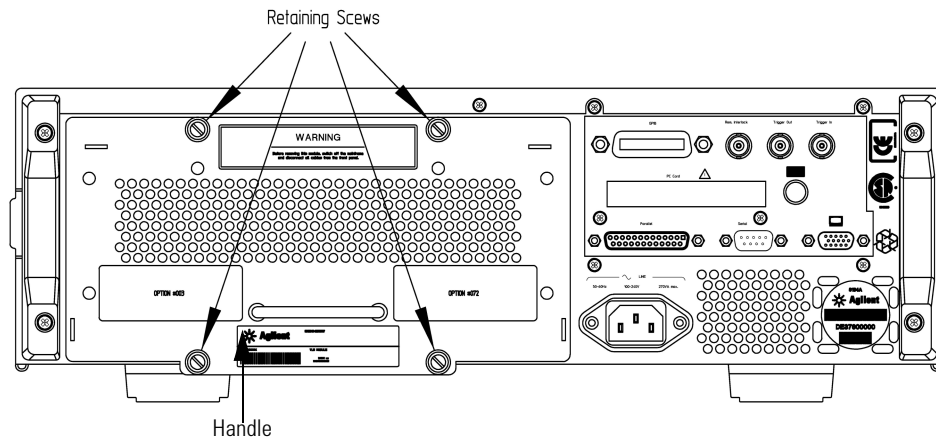

Figure 191 Back Panel of Agilent 8164B Lightwave Measurement System
- 1** Untighten the retaining screws, see Figure 191 , that secure the module in the instrument.